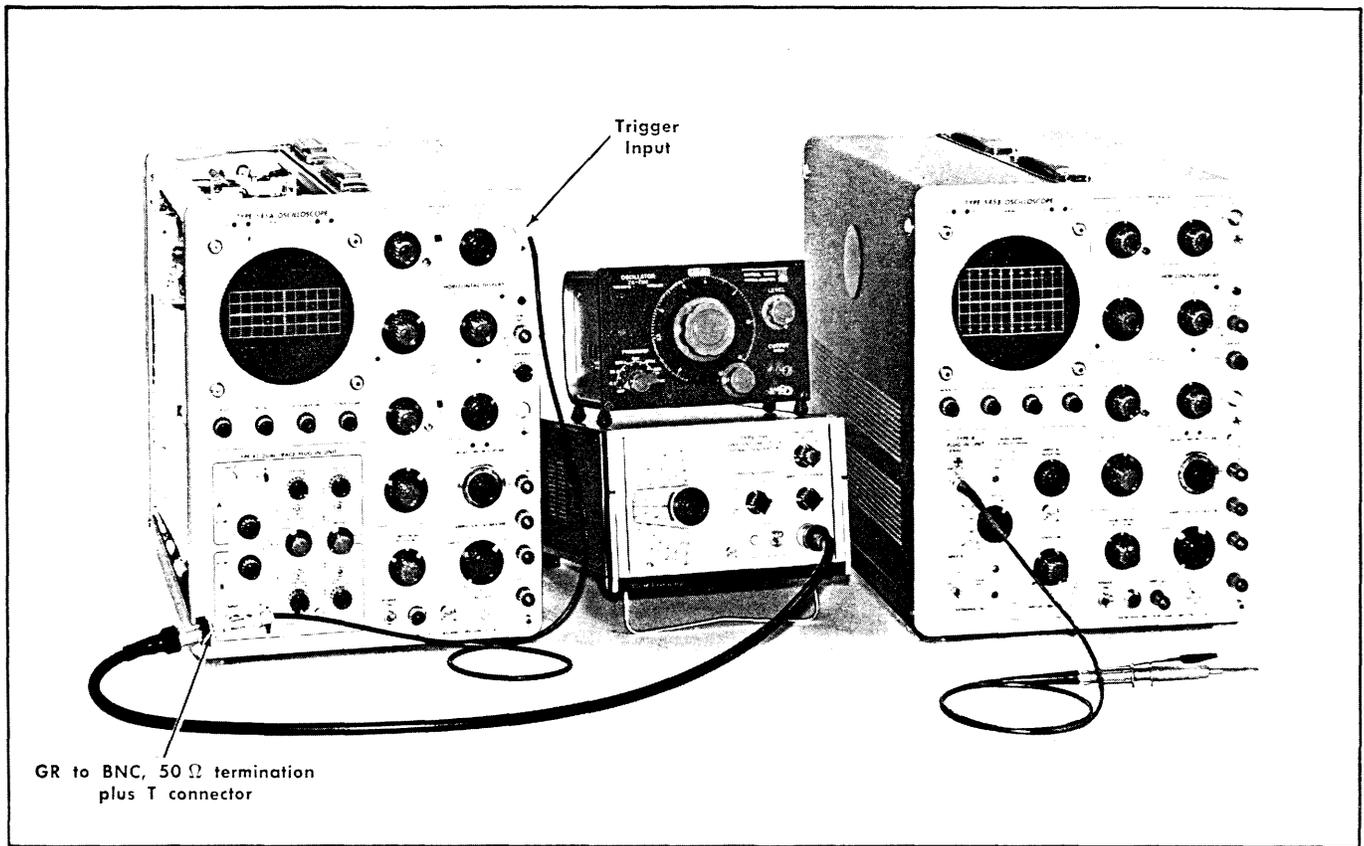

Fig. 6-16. Equipment setup for steps 21 through 24.
a. Equipment setup is given in Fig. 6-16.
23. Adjust Lockout Level ①
- a. Equipment setup is given in Fig. 6-16.